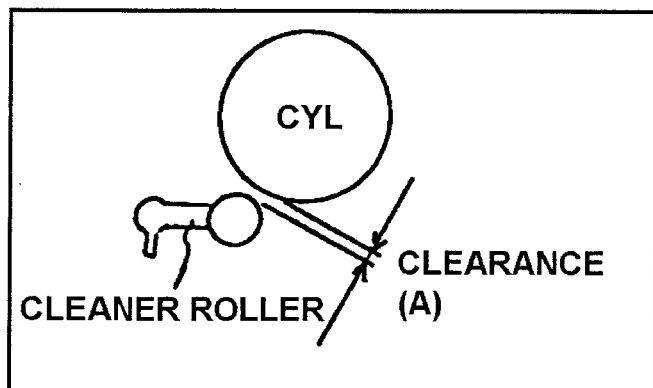

Fig. 6-15-3 Cleaner Roller Position Adjustment
1. Observe the clearance (A) between Cleaner Roller and cylinder Unit as shown in Figure 6-15-3. And make sure that it is within 1.0 to 1.2mm.
2. If not, loosen the 2 screws (B) and adjust the position of Cleaner Base Plate by moving arrow direction (A ⇔ A) using the Eccentric driver so that the clearance (A) is within specification. And tighten the 2 screws (B).